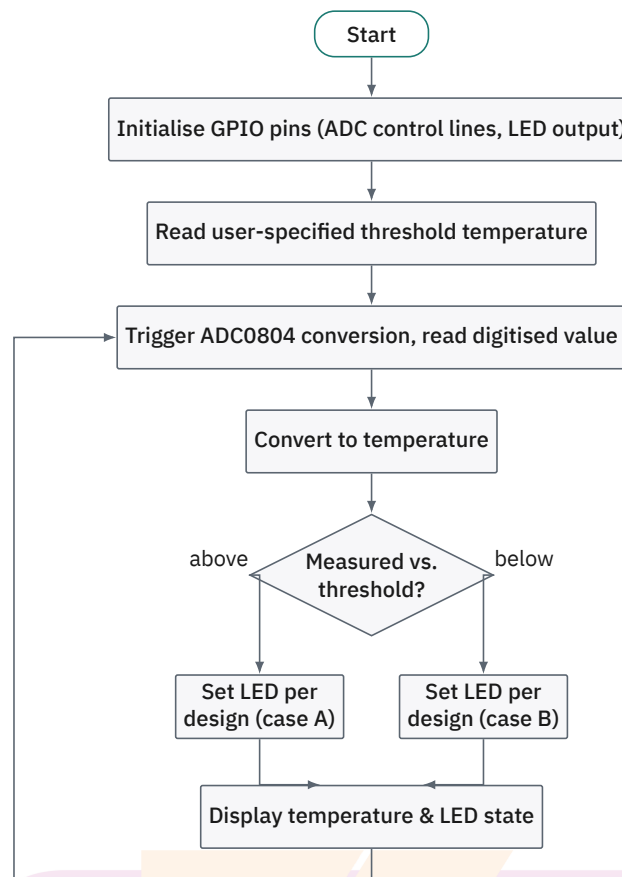

Figure 8.2: Temperature monitoring and LED control loop.
4. Use the flowchart in Figure 8.2 as a starting point for your control logic, adapting the ON/OFF branch to match your chosen design.